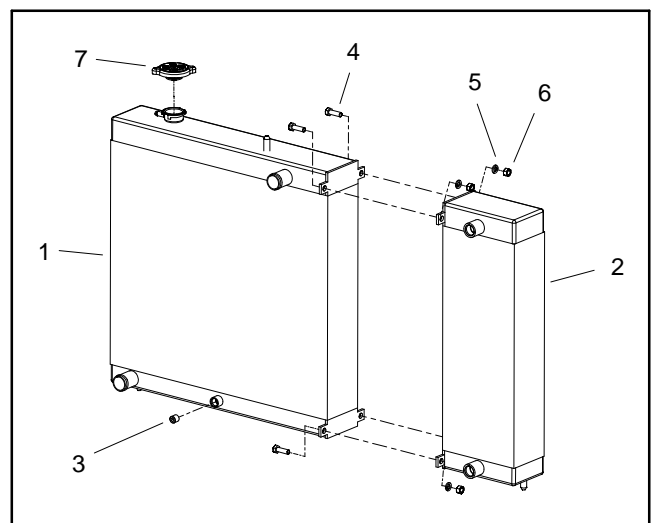

Figure 8
3. Place a suitable container under the center of the radiator to allow coolant draining. Remove pipe plug (item 12 in Fig. 8) (hex socket head) from bottom of the radiator and completely drain the radiator.
7. Remove four (4) screws that secure fan shroud to frame. Carefully position fan shroud away from radiator taking care to not damage fan.
8. Remove two (2) flange head screws (item 10) and flange nuts (item 11) that secure the radiator support to the frame. Lift support from radiator.
11. Inspect bulb seals on radiator and oil cooler assembly and replace them if damaged or hardened. Also, make sure that three (3) isolator mounts (item 5) are in good condition.
12. Separate radiator and oil cooler if necessary (Fig. 8).
1. If radiator and oil cooler were disassembled, position oil cooler to radiator and secure with removed fasteners (Fig. 8).
4. Carefully position radiator and oil cooler assembly to the machine. Make sure that lower pins engage isolator mounts (item 5).
5. Position the radiator support to the top of the radiator and oil cooler assembly. Make sure that radiator pin engages isolator mount in support. Secure support with two (2) flange head screws (item 10) and flange nuts (item 11).
6. Carefully position fan shroud to radiator taking care to not damage fan. Secure fan shroud to the frame with four (4) screws.
10. Apply thread sealant to threads of radiator plug (item 12 in Fig. 8). Install plug into radiator opening.